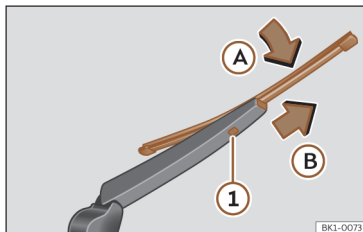

Fig. 174 Changing the rear wiper blade
- Rotate the blade slightly >>> Fig. 174 (arrow A).
- Hold down the release button ① while gently pulling the blade in the direction of the arrow B.
- Insert a new blade of the **same length and type** in the rear wiper arm in the opposite direction to the arrow B until button ① hooks into place.